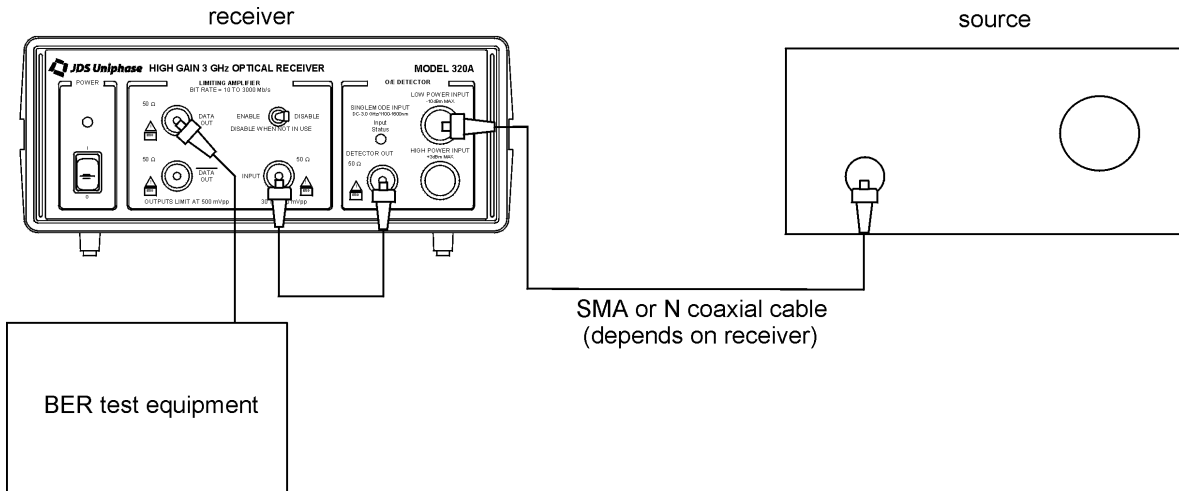

Figure 8: Bit Error Rate Testing Setup
1. Set up the equipment as shown in Figure 8. The O/E Detector's electrical output can be connected directly to the Input of the Limiting Amplifier section, so that the unit functions as a receiver.